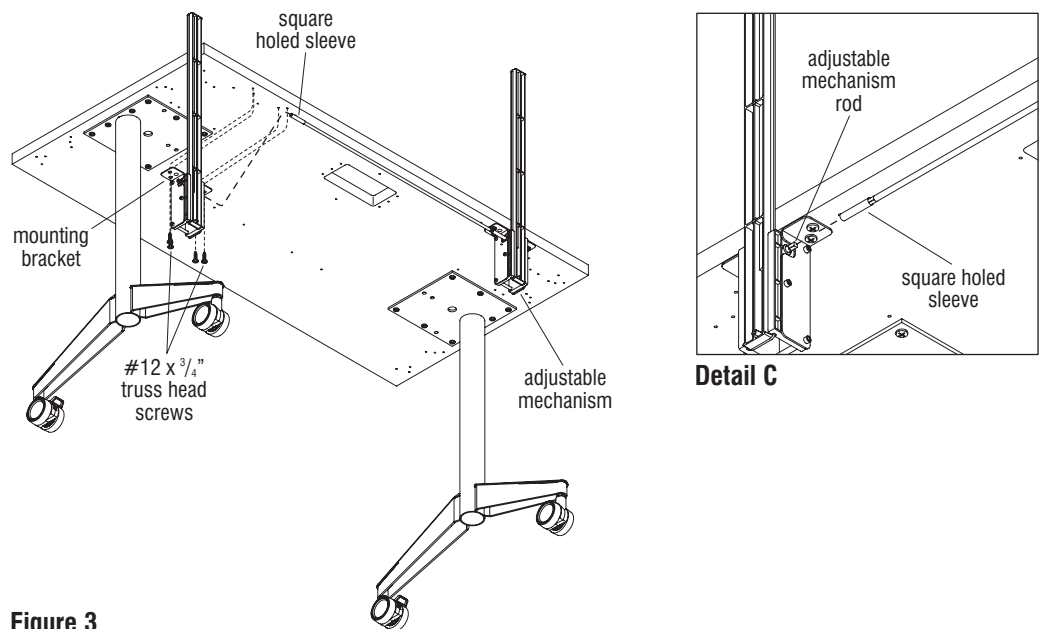

Figure 3
4. Locate another adjustable mechanism and press the mounting bracket up to the underside of the worksurface, then slide it over and insert the adjustable mechanism rod into the square holed sleeve/long connecting rod installed in step 3, synchronizing the two mechanisms together. Secure the mounting bracket of the second mechanism to the underside of the tabletop using four #12 x $\frac{3}{4}$ " screws (Figure 3).